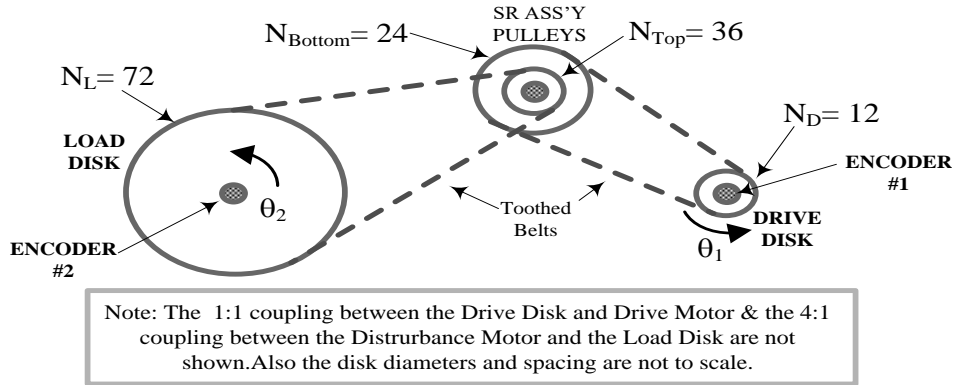

Figure 4.2: Plan Rotation Inertia
Since the feedback loop is closed around Encoder #1 in the laboratory system, the J and B in the system equations must be values ‘reflected’ to the location of encoder #1. The arrangement of the belt and pulley coupling between the disks and the drive motor (shown earlier in this manual) is shown schematically in Figure 4.2: Plan Rotation Inertia. Assuming ‘ideal coupler’ or ‘transformer’ relations, it can be shown that for gears or for toothed-belt and pulleys, the coupling ratio is  $n = \omega_p / \omega_s = \theta_p / \theta_s = N_s / N_p$  where N is the number of teeth and ‘p’ and ‘s’ refer to primary (driving side) and secondary (driven side). Thus, in following Figure 4.2, the overall coupling-ratio is  $n = \omega_1 / \omega_2 = \theta_1 / \theta_2 = n_1 n_2 = [N_{\text{bottom}} / N_D] [N_L / N_{\text{top}}] = (24/12) (72/36) = (2)(2) = 4$ . Furthermore, an inertia J or friction B on the secondary side will appear to the primary-side as being multiplied by  $(1/n^2)$ . Thus, the total effective inertia at the Encoder#1 location can be expressed as: